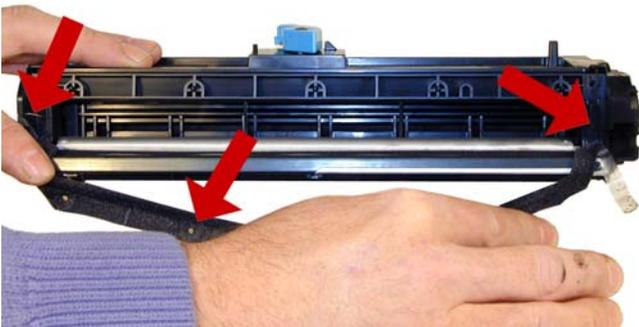

Figure 8
9) Clean any remaining toner dust from the hopper and seals. See **Figure 8**